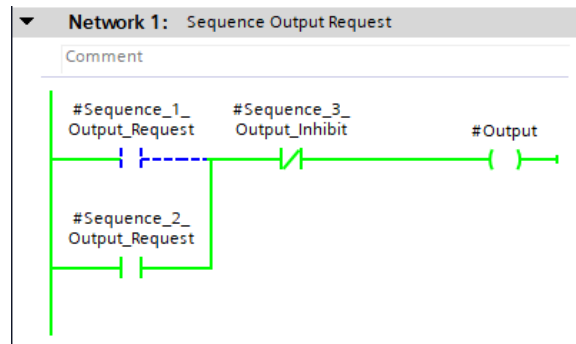

Figure 15.18 – Request example
*Figure 15.18* demonstrates an example of this, where three sequences make requests to a common output: